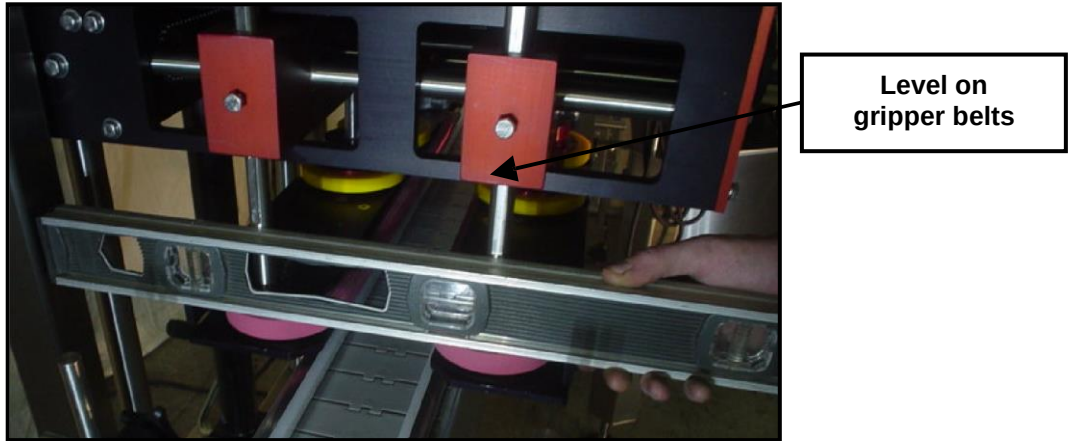

Figure 11. LEVEL THE GRIPPER BELTS FROM FRONT TO BACK
- 3e. Make sure the gripper belts are level from front to back by placing a level across the in-feed side of both sets of belts. Refer to Figure 11. of